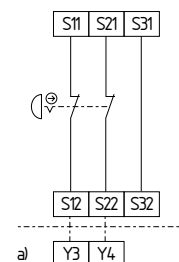

Fig. 11
**Dual-channel emergency stop circuit with command devices to DIN EN ISO 13850 (EN 418) and EN 60947-5-5 (Fig. 11)**